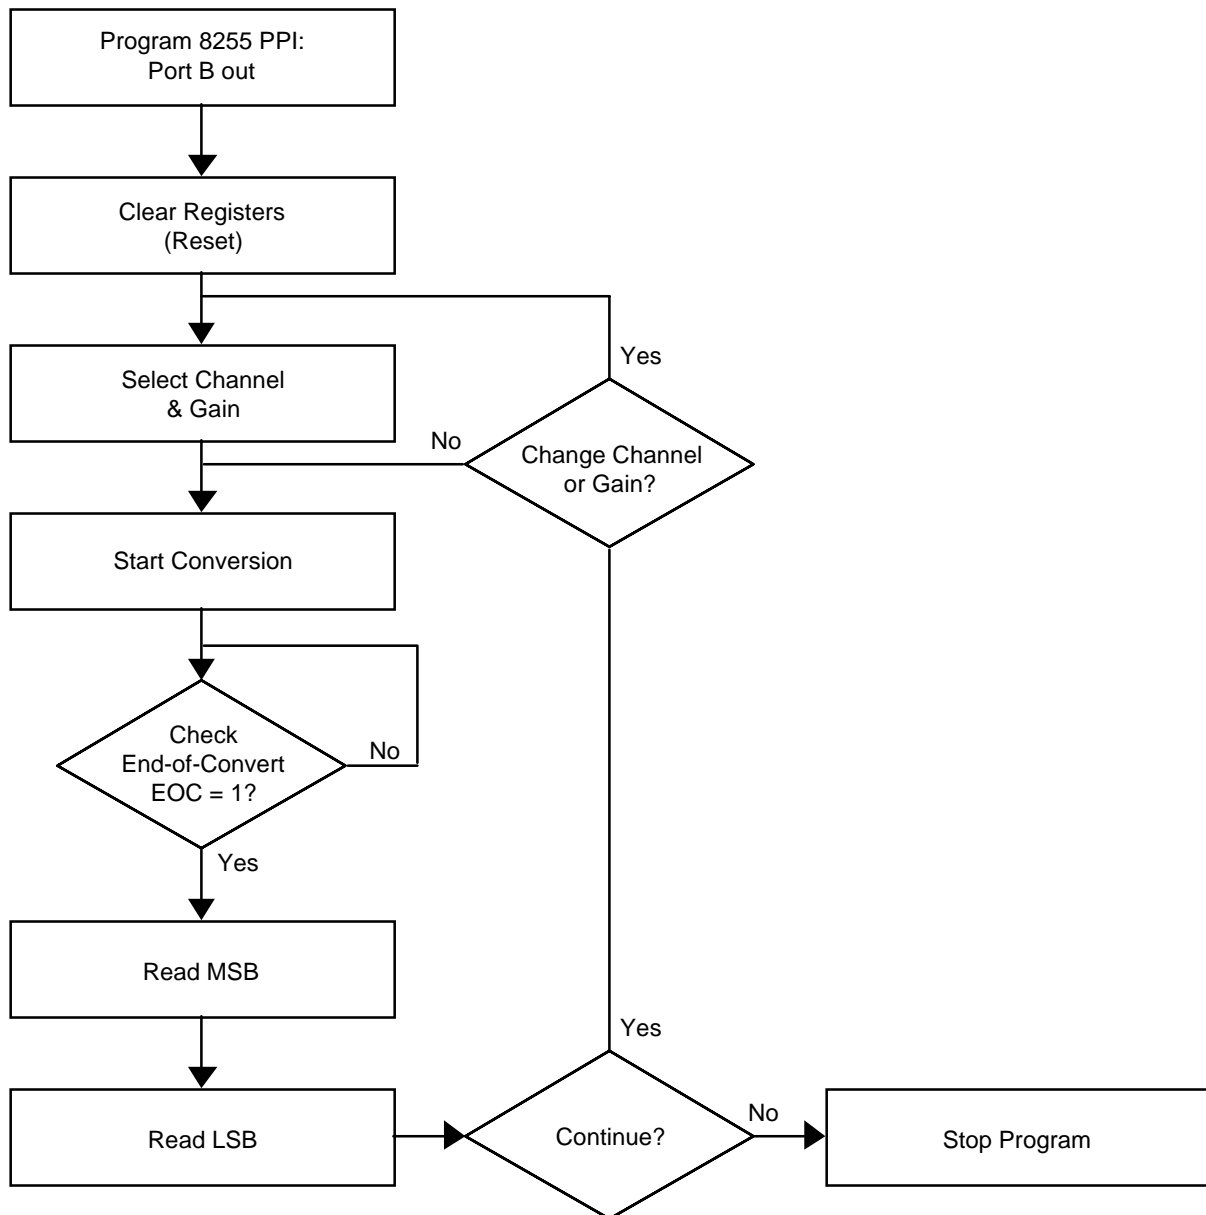

Fig. 4-8 — Single Conversion Flow Diagram
• Single Convert Flow Diagram (Figure 4-8)